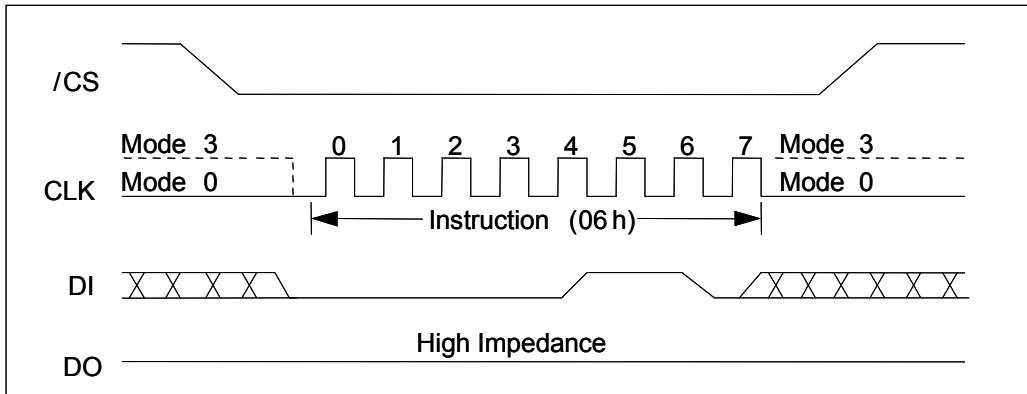

Figure 4. Write Enable Instruction Sequence Diagram
Instructions vary in length from a single byte to several bytes and may be followed by address bytes, data bytes, dummy bytes (don't care), and in some cases, a combination. Instructions are completed with the rising edge of edge /CS. Clock relative timing diagrams for each instruction are included in figures 4 through 29. All read instructions can be completed after any clocked bit. However, all instructions that Write, Program or Erase must complete on a byte (/CS driven high after a full 8-bit have been clocked) otherwise the instruction will be terminated. This feature further protects the device from inadvertent writes. Additionally, while the memory is being programmed or erased, or when the Status Register is being written, all instructions except for Read Register will be ignored until the program or erase cycle has completed.
The Write Enable instruction (Figure 4) sets the Write Enable Latch (WEL) bit in the Status Register to a 1. The WEL bit must be set prior to every Page Program, Sector Erase, Block Erase, Chip Erase and Write Status Register instruction. The Write Enable instruction is entered by driving /CS low, shifting the instruction code “06h” into Data Input (DI) pin on the rising edge of CLK, and then driving /CS high.